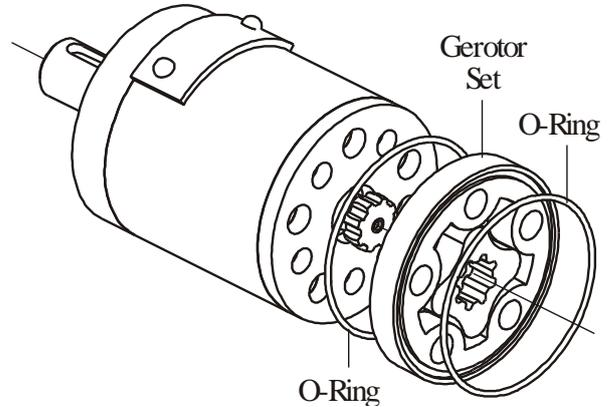

Fig. 3
Remove O-rings from gerotor set grooves (see Figure 3).
11. Lubricate and install O-ring in the groove of the distributor plate (see Fig.3). Install the plate with O-ring side to the housing.